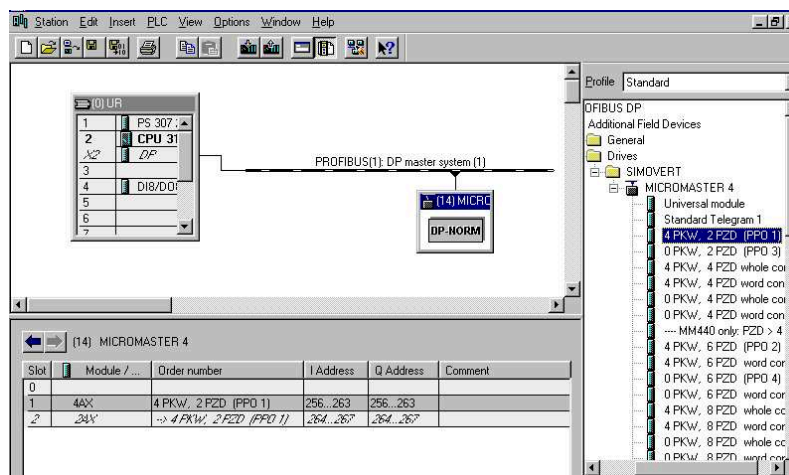

Figure 6-15 Drag and Drop PKW and PZD into Hardware Table
24. Drag and drop the selected PKW and PZD onto the Module/DP ID Column (Slot 0) in the lower left-hand window (see Figure 6-15).